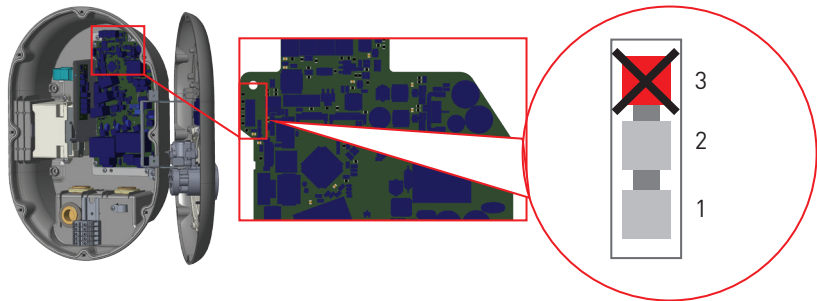

Figure-1
- Slide Switch (SW3) on the power board (21ACPW01) shown in figure-1 should be in position 1 or 2.